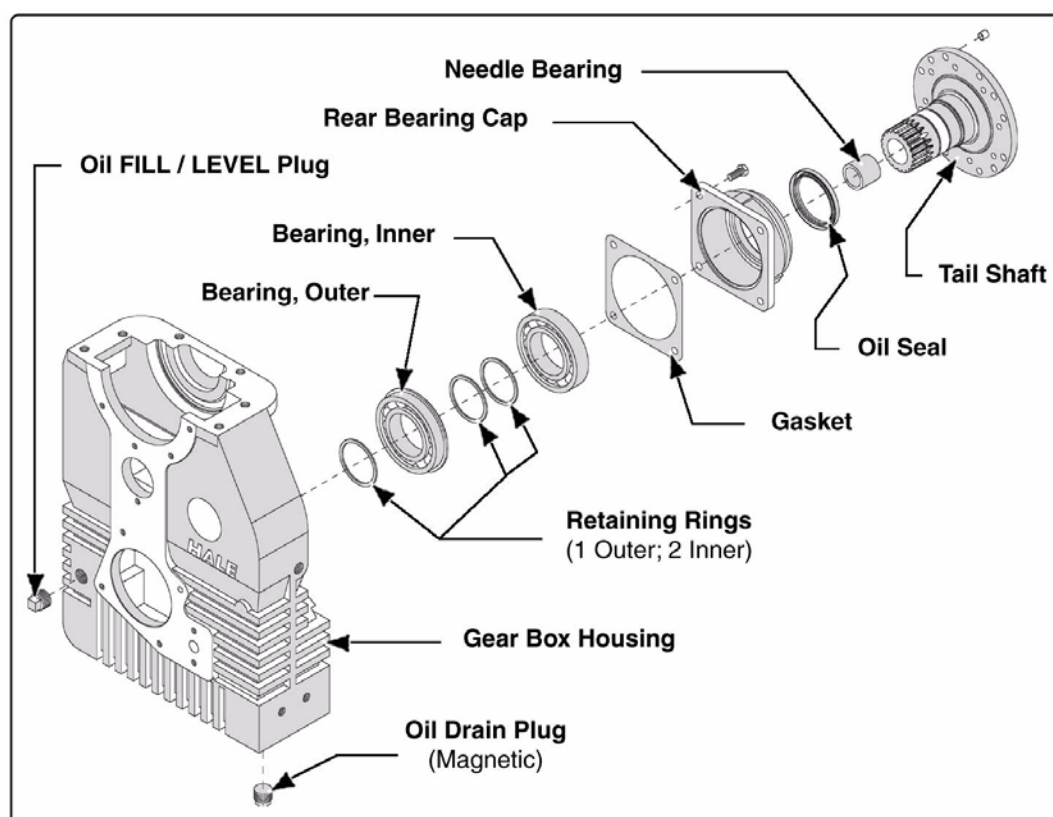

Figure 9-2: Tail Shaft Assembly
1. Remove and disassemble the tail shaft assembly - four 7/16"-14 hex screws. (See Figure 9-2: "Tail Shaft Assembly" on page 150.)
- ☐ Inner bearing retaining rings (2)
(See Figure 9-2: "Tail Shaft Assembly" on page 150.)
9. Install the rear bearing cap - four 7/16"-14 screws. (See Figure 9-2: "Tail Shaft Assembly" on page 150.) EVENLY tighten and torque the screws, in a criss-cross pattern, to 40 ft.-lbs. (54 N-m).